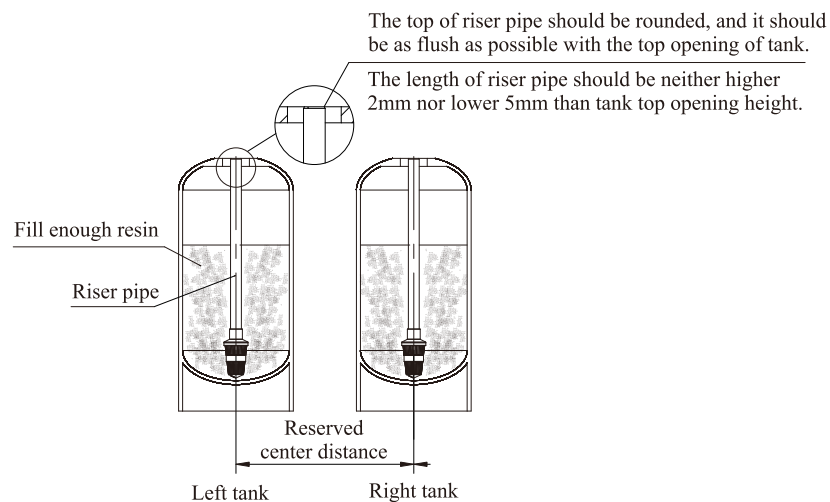

Figure 1
- ①The filter or softener should be located closely to drain.
- ②Ensure the unit is installed in enough space for operating and maintenance.
- ③For softener, brine tank should be located closely to softener.
- ④The unit should be kept away from the heater, and not be exposed to outdoor. Sunshine or rain will cause the system damage.
- ⑤Please avoid installing the system in an acid/alkaline, magnetic or strong vibration circumstance, because above factors will cause the system disorder.
- ⑥Do not install the device, drain pipeline in circumstance which temperature may drop below 5℃, or above 50℃.
- ⑦Install the system in the place where with minimum loss in case of water leaking.
①Install control valve
a. As the Figure1 shows, put two resin tanks side by side, the center distance of the resin tank is reserved according to the actual. Select the riser pipe with 32mm OD, glue the riser pipe to the bottom strainer and put it into the resin tank, cut off the exceeding tube out of tank top opening and round it.